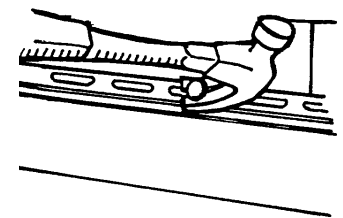

Figure 75
- Gently bend out the upper panel. Take the nails out of the damaged panel and remove it (Figure 75).